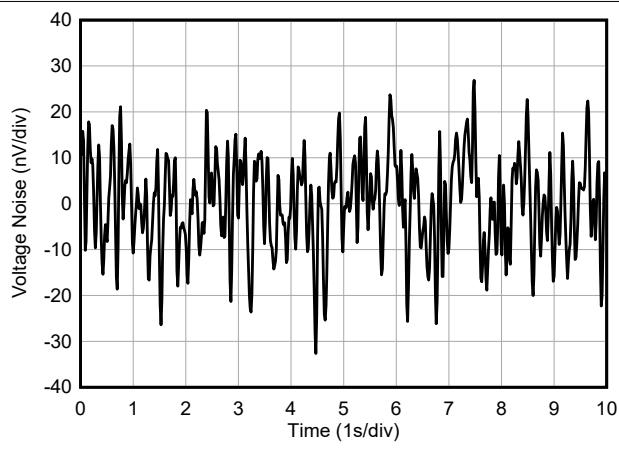

Figure 7-29. 0.1-Hz to 10-Hz RTI Voltage Noise
0.1-Hz to 10-Hz RTI Voltage Noise, $G = 1000$	Figure 7-29